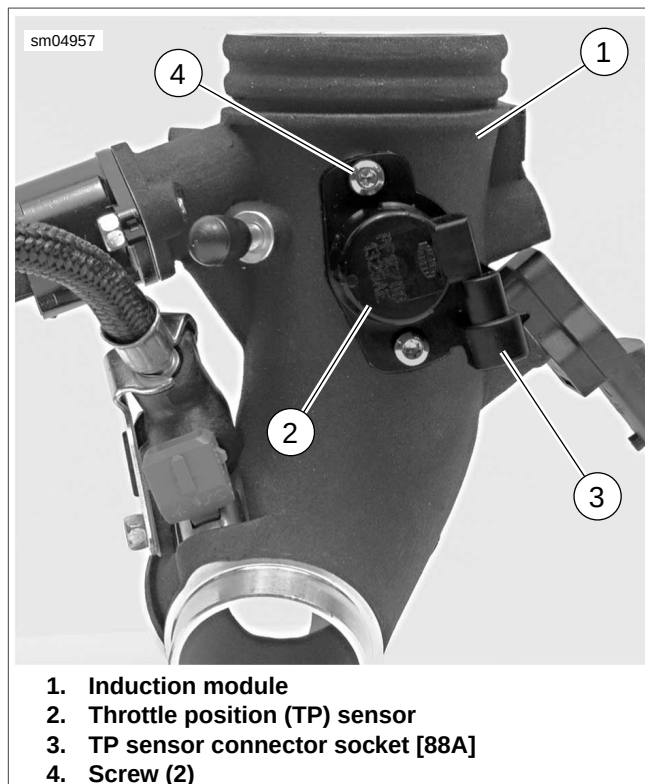

Figure 4-30. Throttle Position (TP) Sensor Removal (XR Models)
4. See Figure 4-30. Unplug TP sensor harness connector [88B] from connector socket [88A] (3). Cover both connectors with tape.
6. Remove two screws (4) and detach TP sensor (2) from induction module (1).
- See Figure 4-30. Note installed orientation of TP sensor (2) relative to induction module (1) body; connector socket is at approximately the 5:00 o'clock position.
2. Rotate the TP sensor counterclockwise into position as shown in Figure 4-30.
3. Make sure TP sensor body is flush against mounting boss on induction module body. Install two screws (4). Tighten to 29 in-lbs (3.3 Nm).